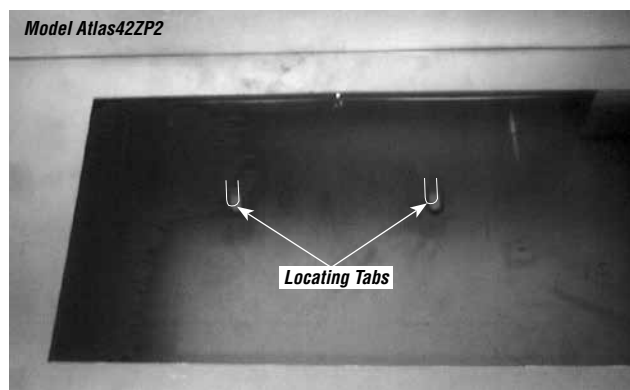
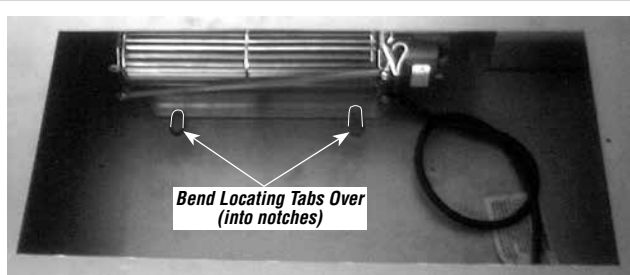

Figure 21 - Atlas42ZP2 Shown
Figure 22 - Atlas42ZP3 Shown
Step 4. Locate the tabs shown in **Figure 21**. Position the blower assembly so that the tabs (located on the cabinet base) are seated in the notches of the blower bracket. Bend the tabs over to secure the blower assembly (see **Figure 22**).